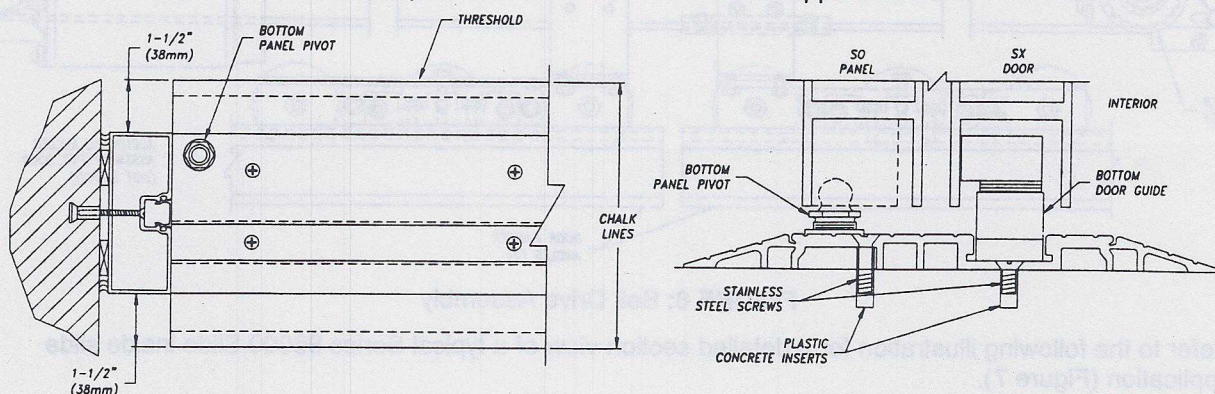

FIGURE 8: Installation of Threshold
2. Keeping the threshold within the chalk lines, use it as a guide and drill through holes into floor material. Prior to drilling, verify that the panel pivot in the threshold is on the proper side of the opening. Place plastic concrete inserts into the drilled holes. Use the stainless steel screws from the blister-pack to fasten the threshold to the floor (Figure 8).